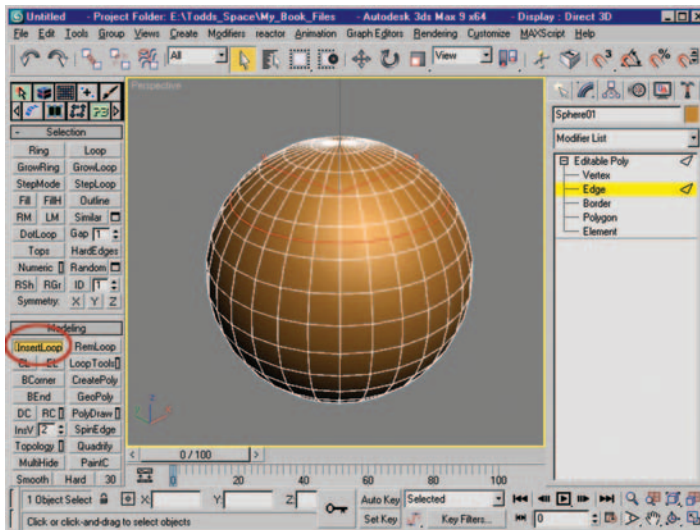

Figure 12.3 A new edge loop is created.
4. Click on the InsertLoop button under the Modeling rollout in the PolyBoost interface. As you may have expected, a new edge loop is inserted into your mesh. Figure 12.3 shows the new loop, as well as the InsertLoop button highlighted.